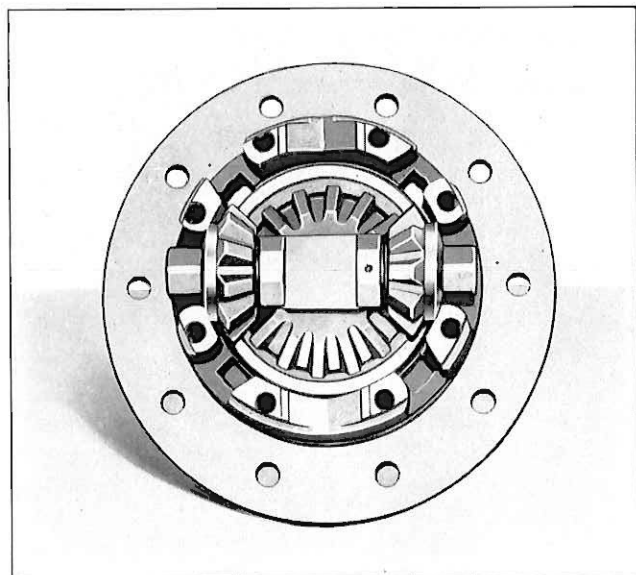

Fig. 6—Installing Mate Shaft
3. With the ring gear half of the differential case in a vertical position, install one differential pinion mate shaft and gears as shown in Fig. 6. Make certain that notch in shaft is up, and shaft is 90° from "V" notches in case.